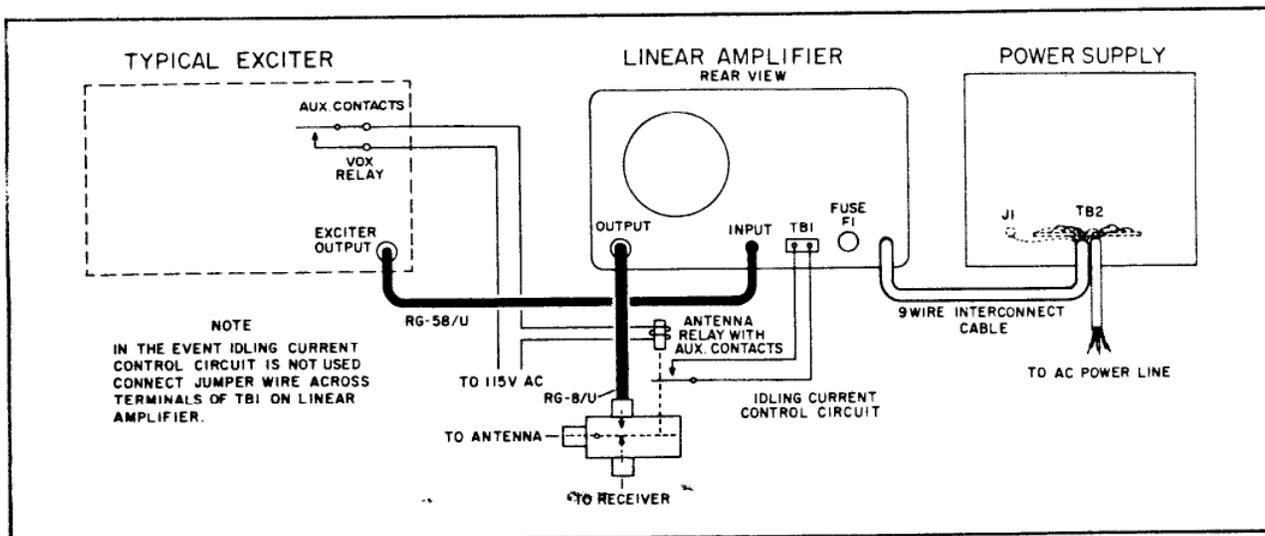

Figure 3. Suggested System Cabling Diagram, Linear Amplifier, Exciter, and Power Supply.
a. RF Input. The input connection for the RF driving signal is located at the rear of the cabinet. A chassis-mounted, female, phono-type connector is provided for the input connection. The mating connector is supplied with the equipment and is used by connecting to a short length of RG-58/U coaxial cable terminated in a connector mating with the exciter output connector. Refer to figure 3 for location of the RF input connector and cabling diagram.
b. RF Output. The output connection for the RF output signal is located at the rear of the cabinet. The output connector is a chassis mounted, UHF Type coaxial connector (SO-239) and mates with a UHF Type coaxial connector (PL-259). The power output developed requires the use of RG-8/U coaxial antenna feed line. The linear amplifier performs best when the load impedance is as near to 50 ohms as is practical. A load impedance of 50 ohms reduces VSWR (voltage standing wave ratio) on the transmission line. Refer to figure 3 for location of the output connector and interconnecting data.
A high-grade, coaxial-type antenna change-over relay is recommended for use in the installation of the linear amplifier. When selecting the antenna changeover relay, a relay with auxiliary contacts should be used if the idling current control provision is to be utilized. The antenna relay is normally operated by contacts of the VOX (voice operated) relay in the exciter unit. Figure 3 illustrates a typical interconnection of the antenna relay and the wiring to auxiliary contacts to provide idling current control.
The type 3-400Z tube, a zero-bias triode with operating voltages up to 3,000 volts DC, does not require the application of bias voltage, either for normal operation or in the standby condition. However, in the standby condition with no driving signal applied, the presence of plate voltage and the heated filament permits an idling current to flow through the tube. The amount of idling current flowing in the standby condition is controlled by the resistance of the ground-return circuit of the filament. Therefore, the amount of idling bias can be reduced by insertion of a resistance in the ground-return circuit during standby. The resistance, which is inserted during standby, must be removed during the transmit condition. The two-connector terminal board (TB1) at the rear of the cabinet serves this purpose, see figure 3. The two leads terminated at TB1 provide a low resistance path and effectively remove the resistor from the circuit when auxiliary contacts of the antenna relay close in the transmit condition or when a permanent jumper is placed across the two terminals. Idling current during standby, when the two terminals are jumpered together, is approximately 120 milliamperes compared with 40 milliamperes when the jumper is removed.
If the idling current control circuit is not used, a jumper must be installed permanently across the two terminals. If the user elects to utilize the idling current control circuit, connection to the auxiliary contacts of an antenna changeover relay and the terminal strip should be made as shown in figure 3. The two leads must be connected to the auxiliary relay contacts in such a manner that when the antenna changeover relay is de-energized (standby condition), contacts are open, placing the resistor in the ground return circuit; when the antenna changeover relay is energized (transmit condition), contacts close to short the resistor out.